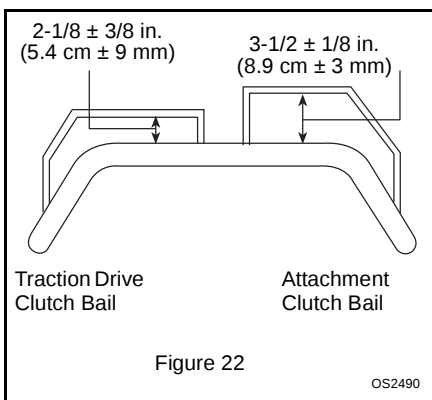

Figure 22
c. Measure the distance from the end of the clutch bail to the handlebar as shown in Figure 22. The distance between the clutch bail and the handlebar should be 3-1/2 ± 1/8 in. (8.9 cm ± 3 mm).
To test traction clutch (Figure 22):